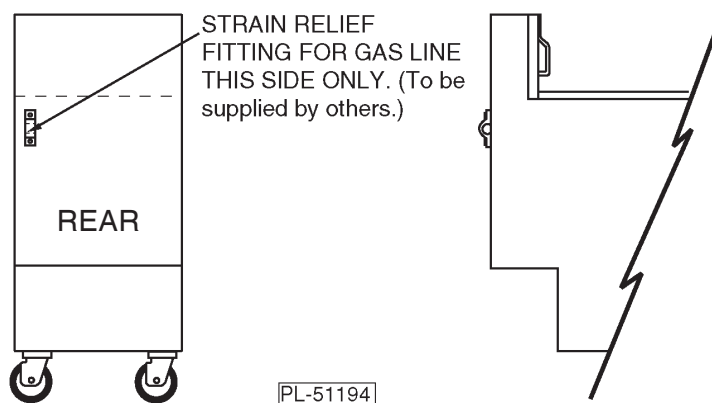

Fig. 3
- For an appliance equipped; with casters, instructions that (1) the installation shall be made with a connector that complies with the Standard for *Connectors for Movable Gas Appliances, ANSI Z21.69* or *Connectors for Moveable Gas Appliances, CAN/CGA-6.16*, and a quick-disconnect device that complies with the Standard for *Quick-Disconnect Devices for Use With Gas Fuel, ANSI Z21.41*, or *Quick Disconnect Devices for Use with Gas Fuel, CANI-6.9*, (2) adequate means must be provided to limit the movement of the appliance.
- The fryer must be installed with restraining means to guard against transmission of strain to the connector, as specified in the manufacturer's instructions (Fig. 3).